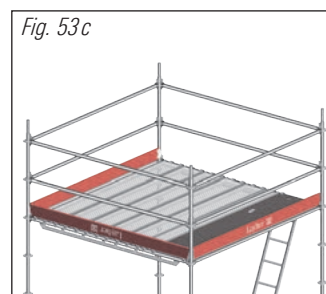

Fig. 53c
3. Then the end toe boards are fitted. Due to the insert connection, the toe board at the end must be rotated by 180°. The Layher lettering is upside down on the end toe boards (Fig. 53c).